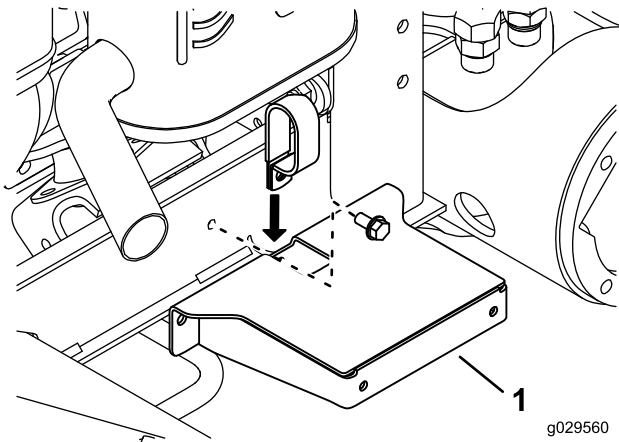

Figure 3
2. Insert the bottom of the hose clamp through the slot in the top of the fender mount (Figure 3).
8. Loosely mount the hose clamp and fender mount to the frame channel with the hose clamp, bolt, and nut (see Figure 3).